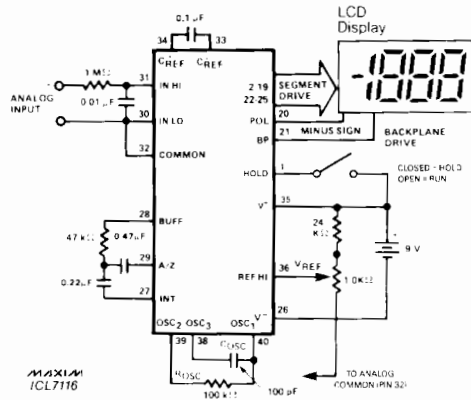

Figure 1. Maxim ICL7116 Typical Operating Circuit, 200mV Reference
- Note 3:** Unless otherwise noted, specifications apply to both the 7116 and 7117 at TA = 25°C, fClock = 48kHz. 7116 is tested in the circuit of Figure 1. 7117 is tested in the circuit of Figure 2.
**ELECTRICAL CHARACTERISTICS:** Specifications below satisfy or exceed all "tested" parameters on adjacent page. ( $V^+ = 9V$ ,  $T_A = 25^\circ C$ ,  $f_{CLOCK} = 48kHz$ ; test circuit - Figure 1 (ICL7116), Figure 2 (ICL7117) unless noted)
**Note 7:** Test condition is  $V_{IN}$  applied between pins IN-HI and IN-LO, i.e., 1M $\Omega$  resistor in Figures 1 and 2.
**Note 11:** 1M $\Omega$  resistor is removed in Figures 1 and 2.
however, the display latch pulse is inhibited, and the display latches are not updated. The Hold input has a 70 kilohm pulldown resistor to Test (ICL7116) or Ground (ICL7117) and the Hold input will be pulled low if it is left open. When Hold is low the ICL7116/ICL7117 updates the display at the end of each conversion. The Hold input is CMOS compatible, and can also be driven by a switch connected to  $V^+$  (Figure 1 and 2) or by a PNP transistor.